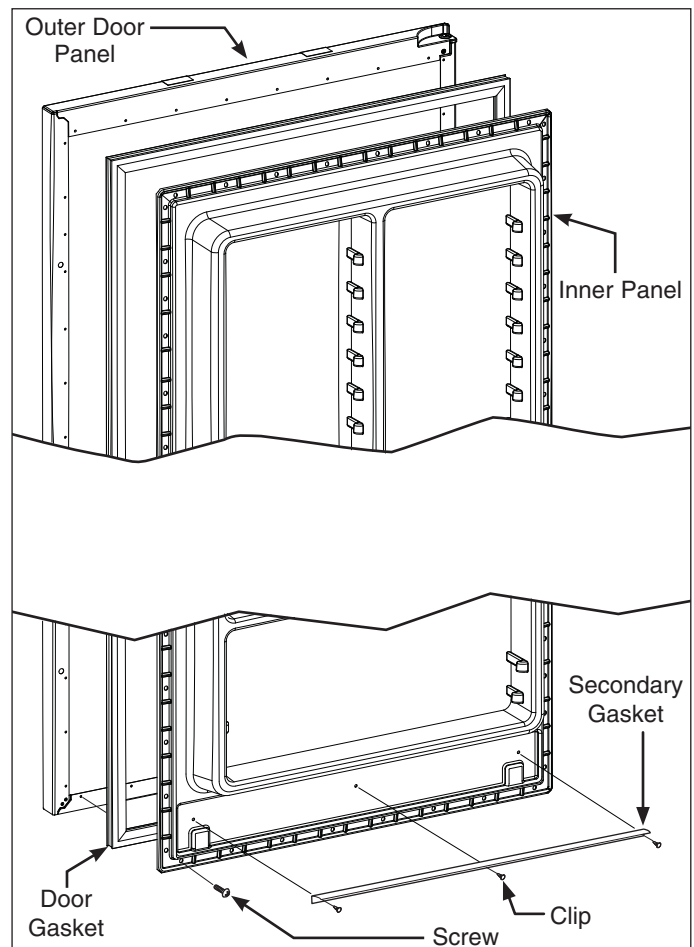

Figure 5-6. Inner Panel and Door Gasket Removal
2. Loosen the inner panel screws until the door gasket can be pulled out from under the inner panel. (See Figure 5-6)